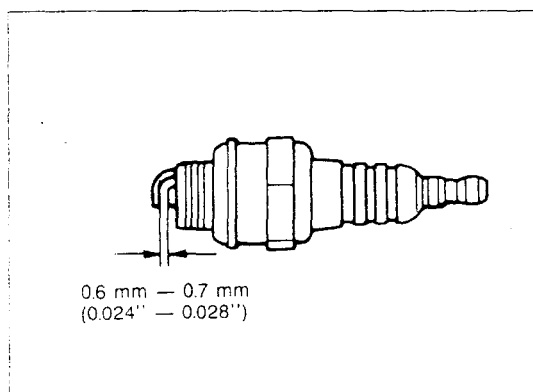

Fig. 29
4. Check the spark plug every 8 hours or daily. The gap between the two electrodes of the spark plug should be 0.6 to 0.7 mm (0.024" to 0.028"). If the gap is too wide or too narrow, adjust it. If the spark plug is clogged with carbon or fouled, clean it thoroughly or replace it (Fig. 29).